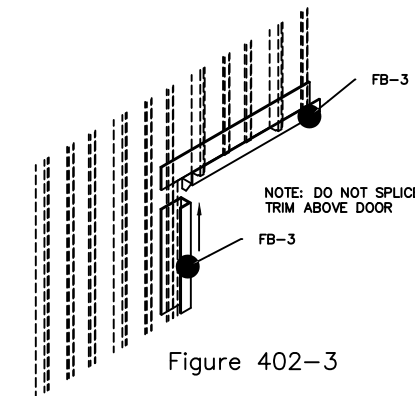

Figure 402-3
13. Be sure to install the trims at the top corner as shown in figure 402-3, and caulk so that the insulation is weather tight.